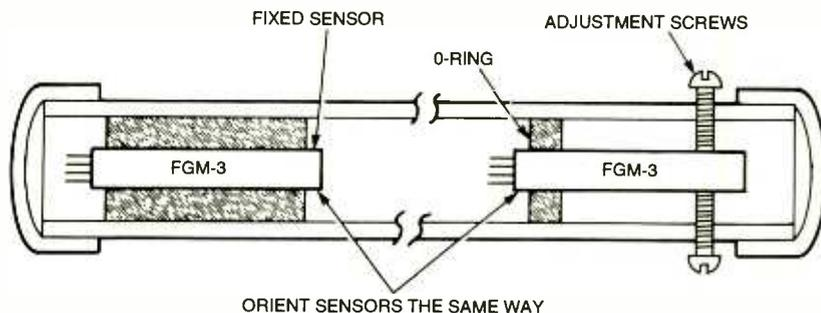

Fig. 12. Speake & Co.'s adjustment method, while functional, is not very practical.
**Magnetometer Mounts.** The final step—the most difficult of the whole project—is to install the sensors in a way that they can be mechanically aligned. Sensor alignment consists of adjusting one of the sensors until it is perfectly on-axis with the other sensor. The method described by the Speake & Co. literature is to fix one sensor into the tube with "O-rings" and to mount the other sensor with an adjustment mechanism, as shown in Fig. 12. The "O-ring" provides a pivot point, and four external non-magnetic (nylon, aluminum, or brass) screws are used to make the necessary adjustments. I found this approach to be unsightly with the screws sticking out of an otherwise sleek-looking tube, as well as being